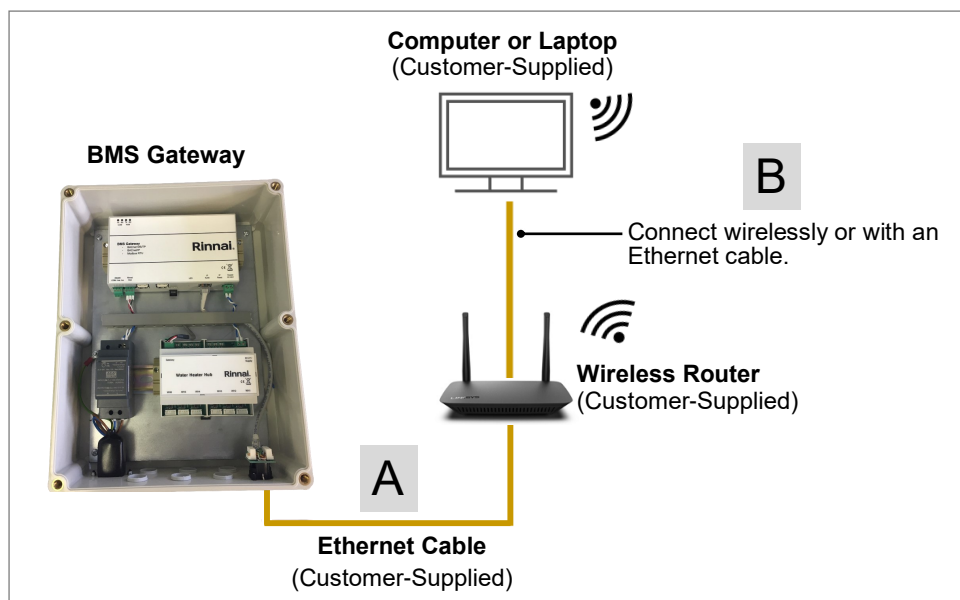

Fig 98. Connect to BMS Gateway Using a Network Router/Switch/Hub
2. Connect the BMS Gateway to the router with an Ethernet cable (See “A” in Fig 98).
3. Connect the computer or laptop to the router either wirelessly or with an Ethernet cable (See “B” in Fig 98).